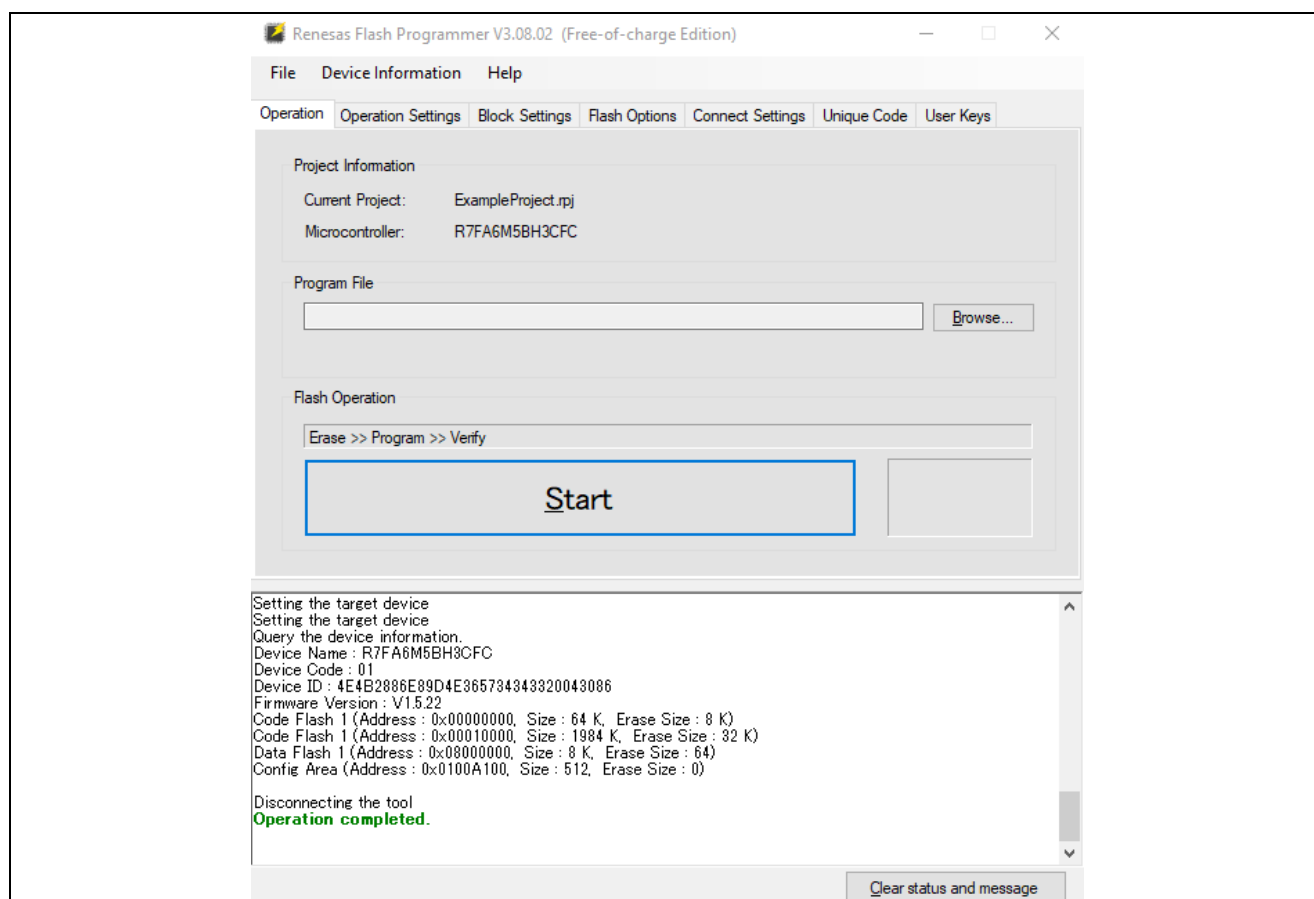

Figure 3. The Main Window of Renesas Flash Programmer After Creating a New Project
5. Verify the message **Operation Complete** is printed in the main window after clicking Connect. Under Program File, click Browse to choose to the program file that will be flashed onto the board (Figure 3). Using the file explorer window, navigate to the example project's **ra6m5.srec** file and click Open.